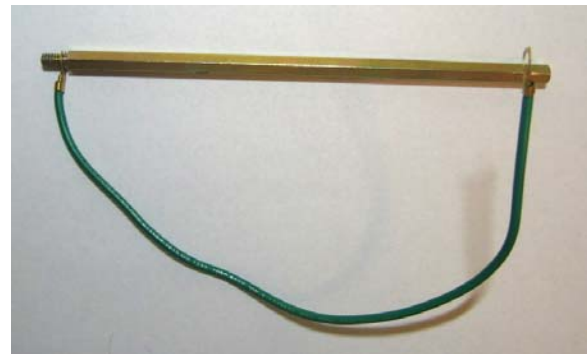

Figure 3.2.10
5. Connect one ring lug of a lone ground wire to the hex bolt as shown in figure 3.2.10